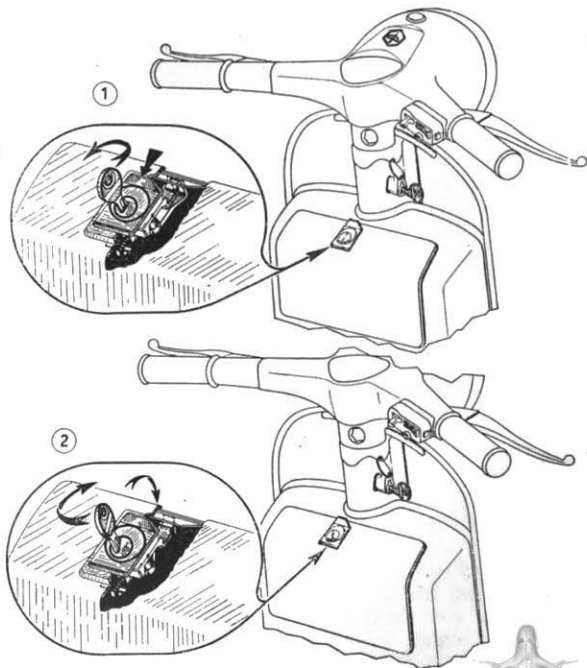
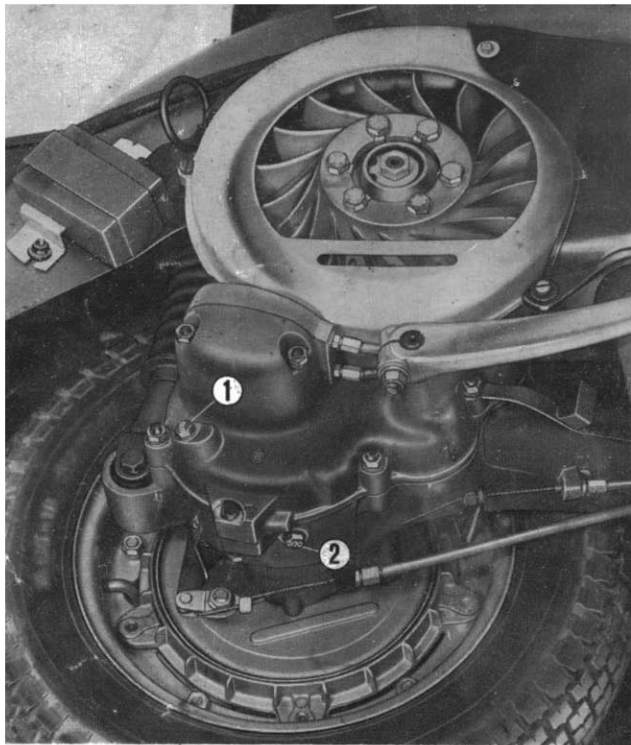

Fig. 4 - Front tool box lock scooterhelp.com
Fig. 16 - Oil filler hole (1); oil draining hole (2).
<p data-bbox="144 215 411 280">2. Front tool box lock</p> <p data-bbox="144 591 452 656">BEFORE OPERATING THE VEHICLE</p>	<p data-bbox="489 215 1105 513">To open the flap door of the front box insert the key in the lock and turn it fully anticlockwise, then slide down the external plaque of the lock (fig. 4). In order to close it, close the flap door until the lock clicks against the tool box; then turn the key clockwise and withdraw.</p> <p data-bbox="489 581 1105 726">Unscrew the plug on the gear box marked « OLIO » (fig. 16) and check that the oil is on a level with the hole when the vehicle is standing upright.</p>
- 1) - Check oil level in gear box (Fig. 16).